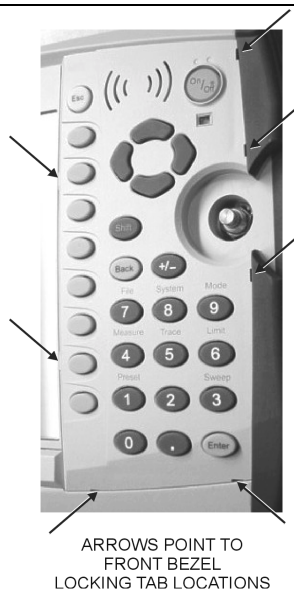

Figure 20. Front Panel Keypad Bezel
2. There are eight locking tabs holding the keypad bezel to the case. Using a small flat-blade screwdriver, carefully pry the front bezel locking tabs free of the main body of the case. This will expose the keypad membrane (Figure 20).